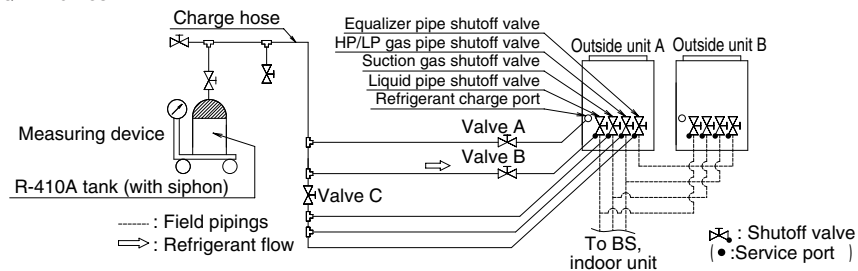

figure 30
3. Open the valve B (See the figure 30. The valve A,C and the liquid pipe, suction gas pipe, HP/LP gas pipe, equalizer pipe shutoff valves must be left closed), and charge the refrigerant of the **additional charging amount** from the liquid side shutout valve service port.